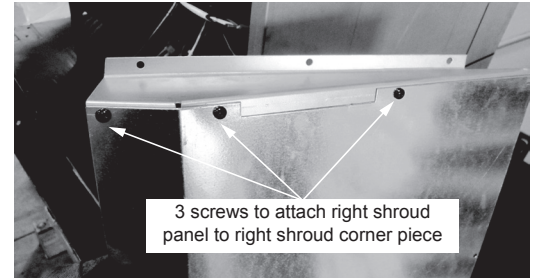

Figure 21.5
8. Assemble the right shroud panel corner and the right shroud panel using 3 screws (**Figure 21.5**).
Parts need from the kit: 1 piece of flex hose, 2 hose clamps, trim ring, and 1 termination cap assembly See Figure 21.5 and 8 screws.